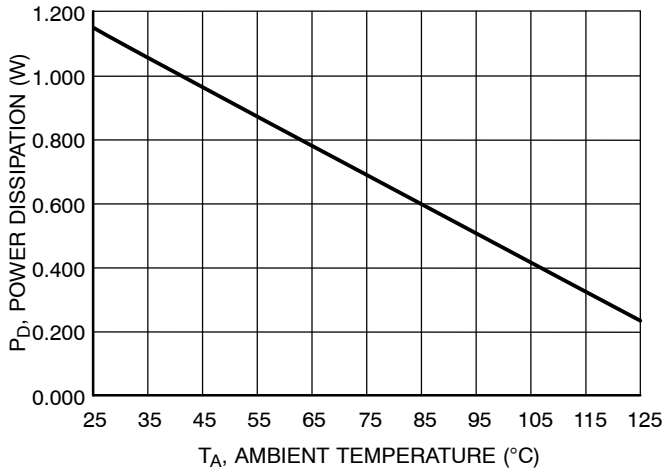

Figure 3. Total Power Dissipation (P_D) vs. Ambient Temperature (T_A)
9. If $P_{D_total} > 1.13 \text{ W}$ (or derated value per Figure 3), then select the most appropriate recourse and repeat steps 1–8:
9. If $P_{D_total} > 1.13 \text{ W}$ (or derated value per Figure 3), then select the most appropriate recourse and repeat steps 1-8: